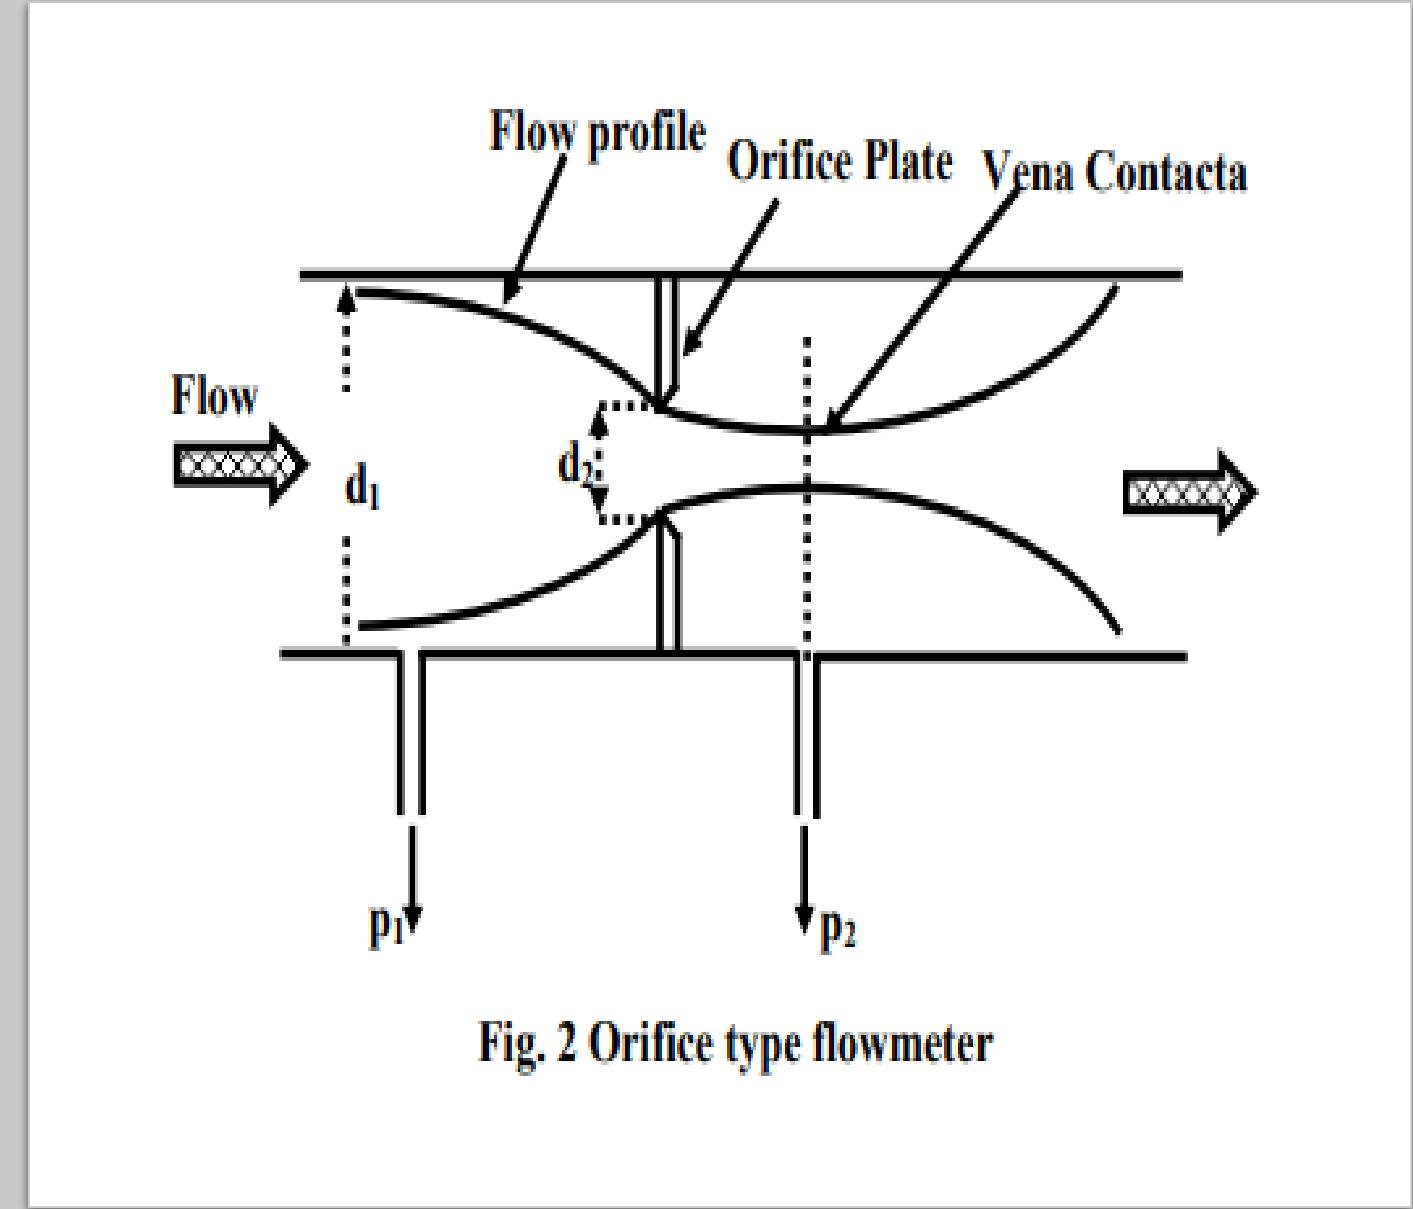

Fig. 2 Orifice type flowmeter
- Most common among them is the orifice type flowmeter, where an orifice plate is placed in the pipe line, as shown in fig.2. If  $d_1$  and  $d_2$  are the diameters of the pipe line and the orifice opening, then the flow rate can be obtained by measuring the pressure difference ( $p_1-p_2$ ).